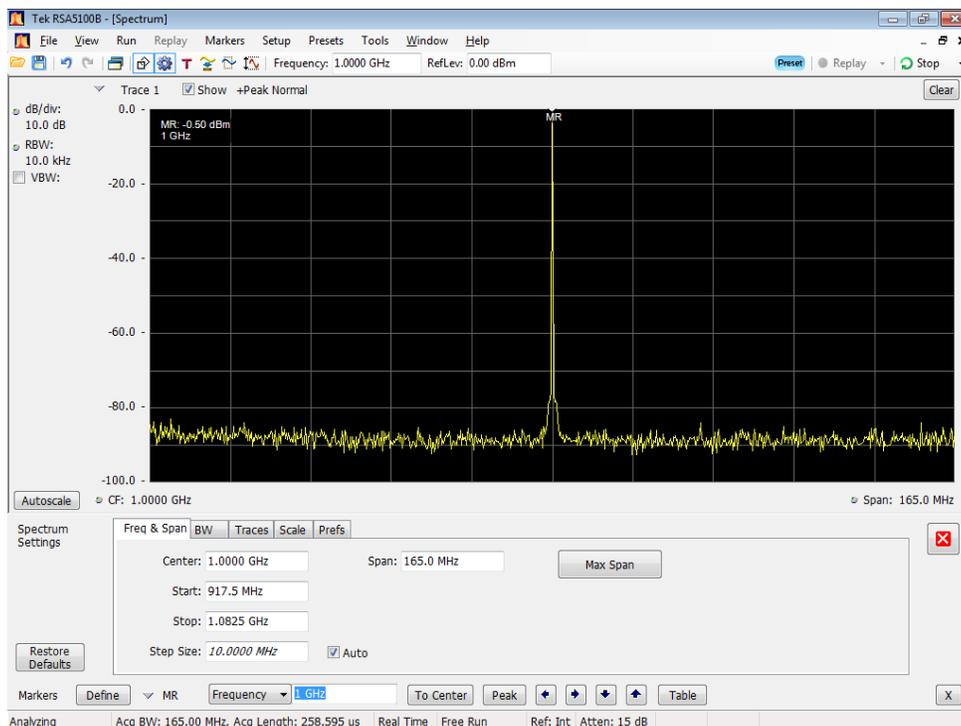

Figure 8: 1 GHz output waveform – Filter set to Low Pass
16. Check that the Channel 1 waveform is properly displayed on the signal analyzer screen. (See Figure 8.)